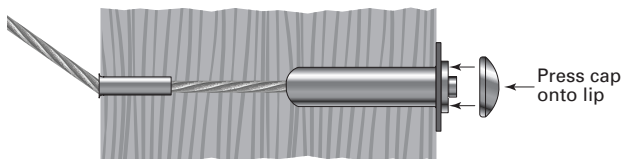

Figure 9
5. Press the cap onto the lip of the Pull-Lock® fitting. (Figure 9)